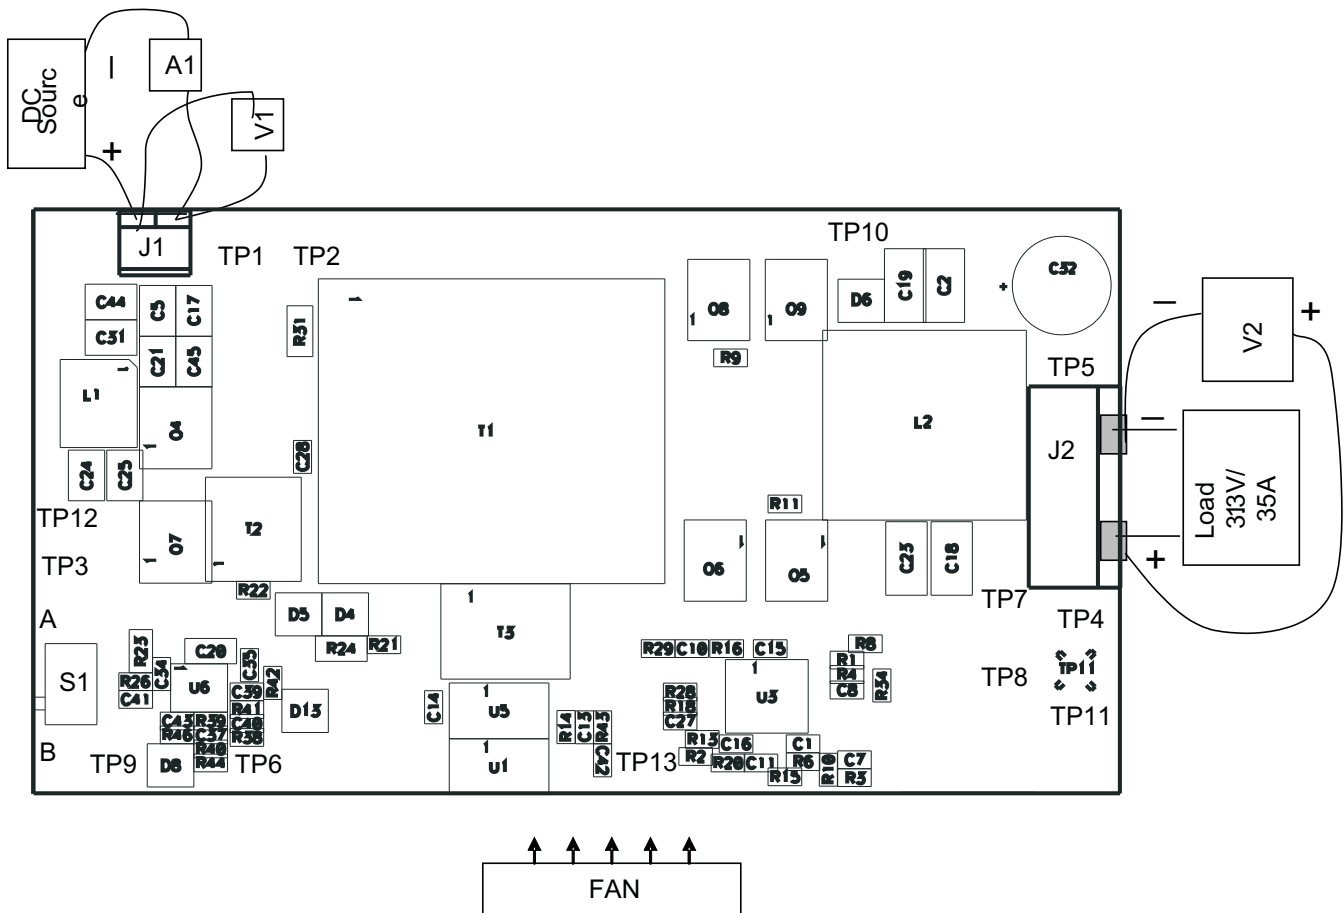

Figure 2. UCC25230EVM-662 Recommended Test Set Up
Set up the EVM based on Figure 2.
1. Connect the ammeter A1 (0 A to 10 A range) between DC Source and J1 as shown in Figure 2.
2. Prior to connecting the DC source, it is advisable to limit the source current to 4 A maximum. Make sure the DC source is initially set to 0 V and connected to J1 and A1 as shown in Figure 2.
3. Connect voltmeter, V1 across the DC source as shown in Figure 2.
4. Connect Load1 to J2 as shown in Figure 2. Set Load1 to constant current mode to sink 0 ADC before the input voltage on J1 is applied.
5. Connect voltmeter, V2 to J2 as shown in Figure 2.